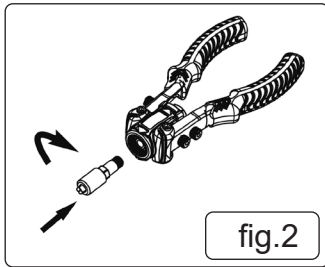

fig.2
- 4.1.1. Screw rivet assembly rod (fig.1.2) into the handle.(fig.2).